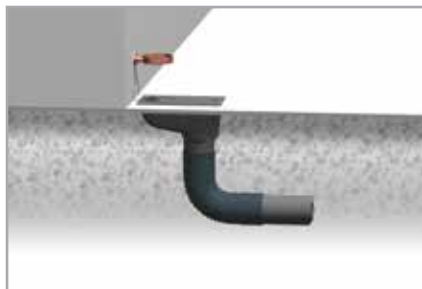
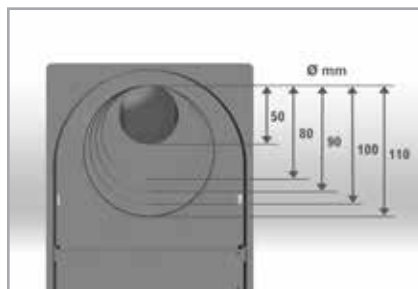

Fig. 24
Fig. 25
6.1 Drainage to the sewage system. Install a standard sedimentation tank in the ground, under the downpipe. Join its bottom outlet with a flexible elbow connected to the underground sewer pipes **(Fig. 24)**. Cut a hole in the standard sediment tank flap. The hole diameter should match the outer diameter of the downpipe used **(Fig. 25, 26)**. Insert the downpipe into the hole **(Fig. 27)**